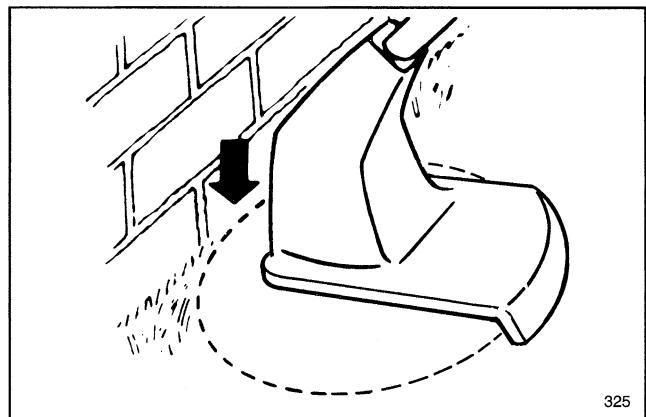

Figure 8
6. **DO NOT FORCE THE UNIT.** Allow the very tip of the nylon line to do the cutting (especially along walls) (Fig. 8). Cutting with more than the tip will reduce cutting efficiency and overload the motor.